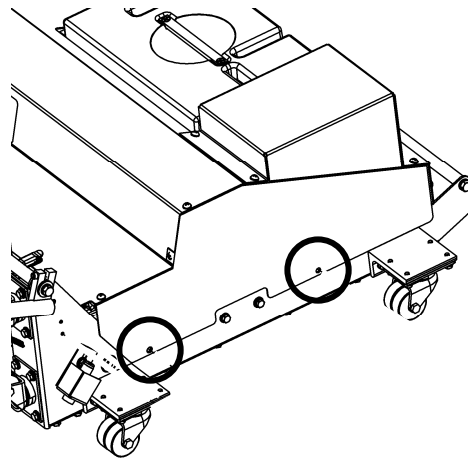

Figure 3-5
1. Remove the two screws, shown in Figure 3-5, from both sides of the hood and lift the hood from the frame. Set aside the screws.